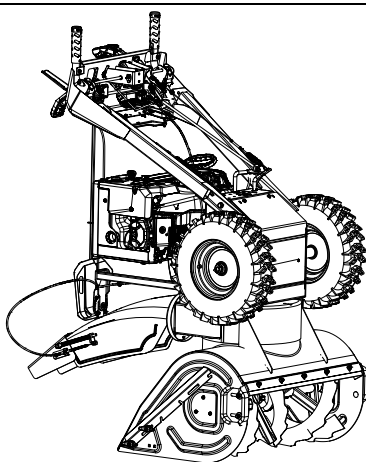

Figure 11
See Figure 11.
1. Place unit in service position (see Figure 11) and remove bottom cover.